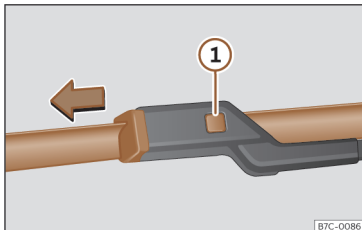

Fig. 41 Changing the windscreen wiper blades
- Press and hold release button >>> **Fig. 41** ① and pull gently on the wiper blade in the direction of the arrow.